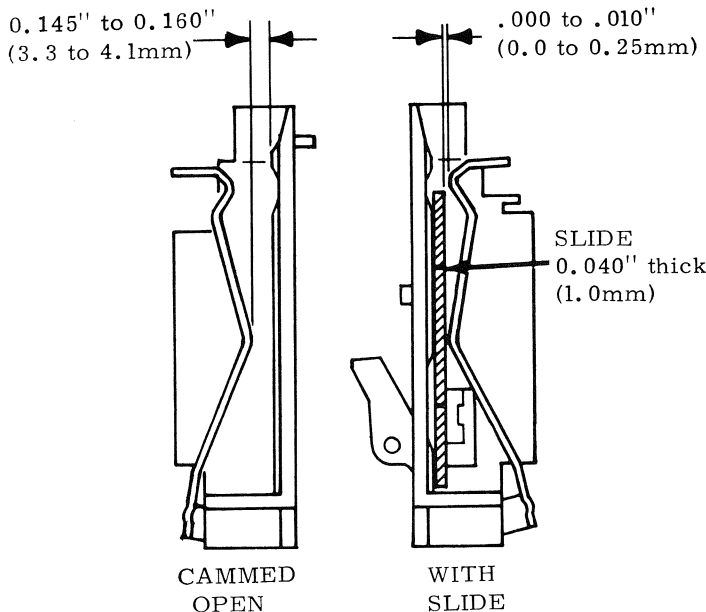

Figure 3-17. Slide Clamp Clearances
3. Face Clamps (Figure 3-17). Check slide face clamps as dimensioned below. The "cammed open" dimension can be measured when the "Select" button is depressed.